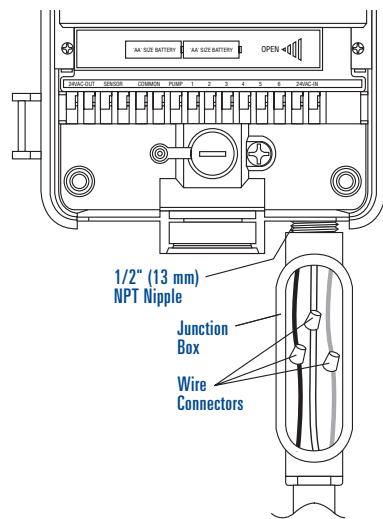

Figure A5: Using a Junction Box
- Connect the junction box (not included) to the NPT nipple. [See Figure A5]